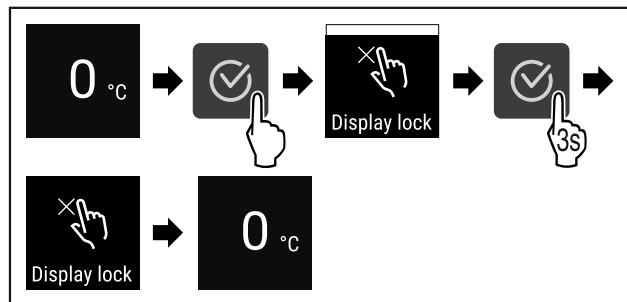

Fig. 68
- Complete steps (see Fig. 68) .